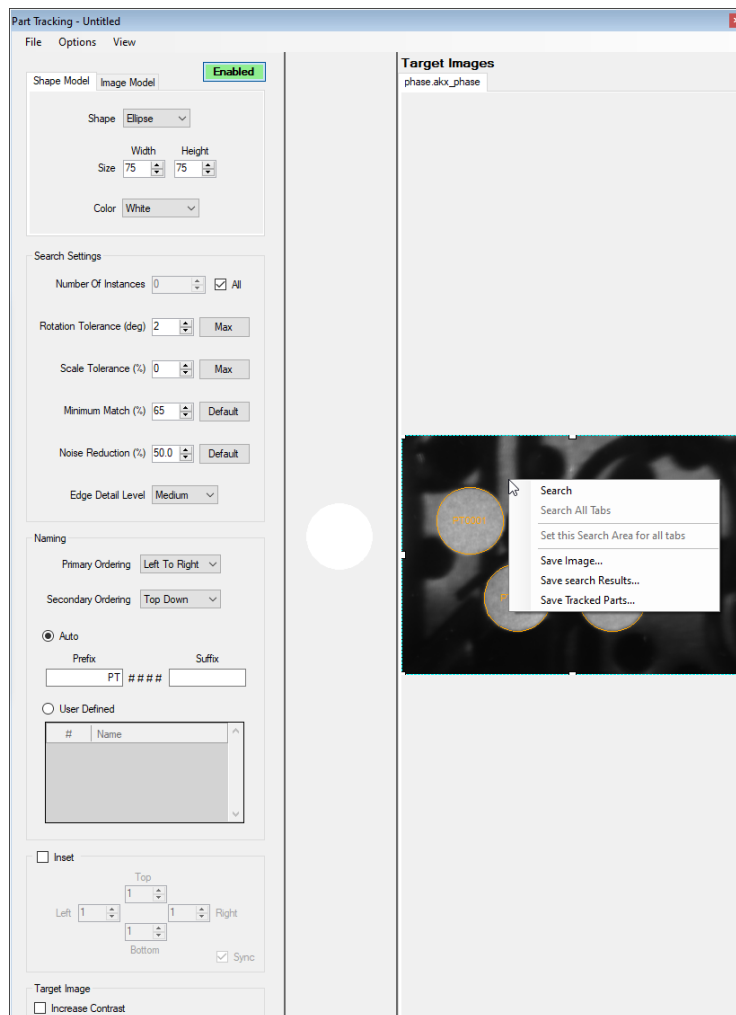

Figure 2.49 Part Tracking window with Target Image
- **View** – Allows the user to show or hide the Model and Target Images display. See the result with both being shown in **Figure 2.49**.